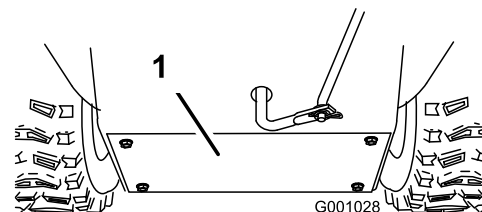

**Figure 53**
Lightly lubricate the hex shaft yearly with automotive engine oil (Figure 53).
**Important:** Do not get oil on the rubber wheel or the aluminum friction drive plate because the traction drive will slip (Figure 53).